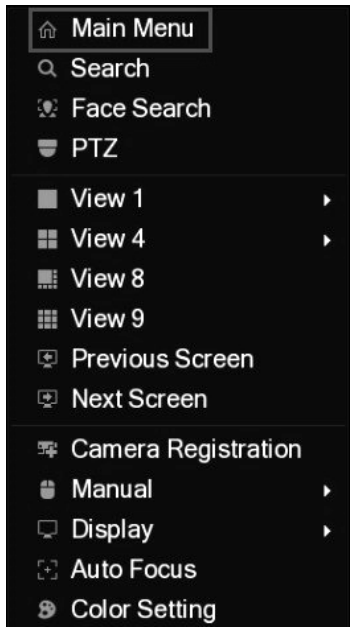

Figure 4-1
**Step 1** In the live view screen interface, right-click anywhere on the screen. The shortcut menu is displayed. See Figure 4-1.
The shortcut menu (Figure 4-1) is displayed.